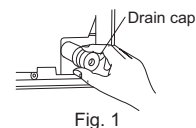

Fig. 1
- The drain hose should point downward for easy drain flow. (Fig. 1)
- Cut the copper pipe correctly with pipe cutter. (Fig. 1, 2)
- Put the refrigerant piping and the drain hose together, then firmly apply felt tape (4) from the end. Felt tape (4) overlap width should be 1/3 the tape width. Use a bandage stopper at the end of felt tape (4).
- Pull out the drain cap at the rear right of the indoor unit. (Fig. 1)